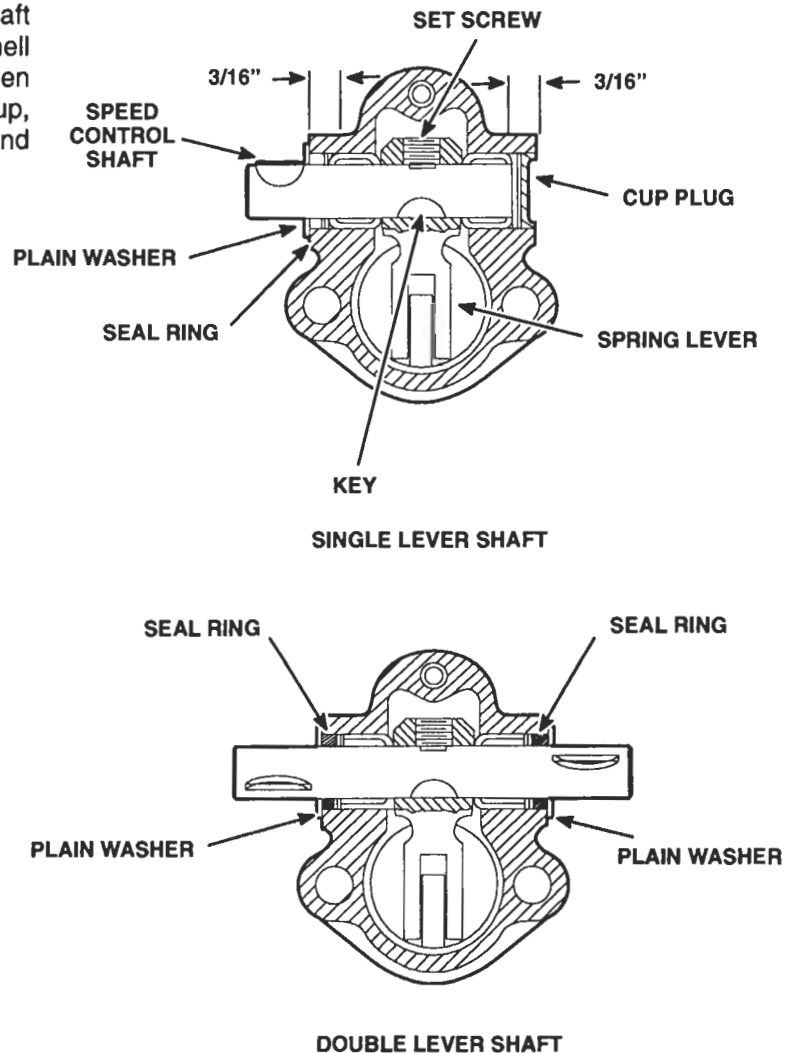

Figure 12. Cross Section of Governor Variable Speed Spring Housing
1. Lubricate the speed control lever shaft needle bearings (Figure 12.) with Shell Alvania No. 2 grease, or equivalent. Then start one of the bearings, numbered end up, straight in the bearing bore in the right-hand side of the spring housing.